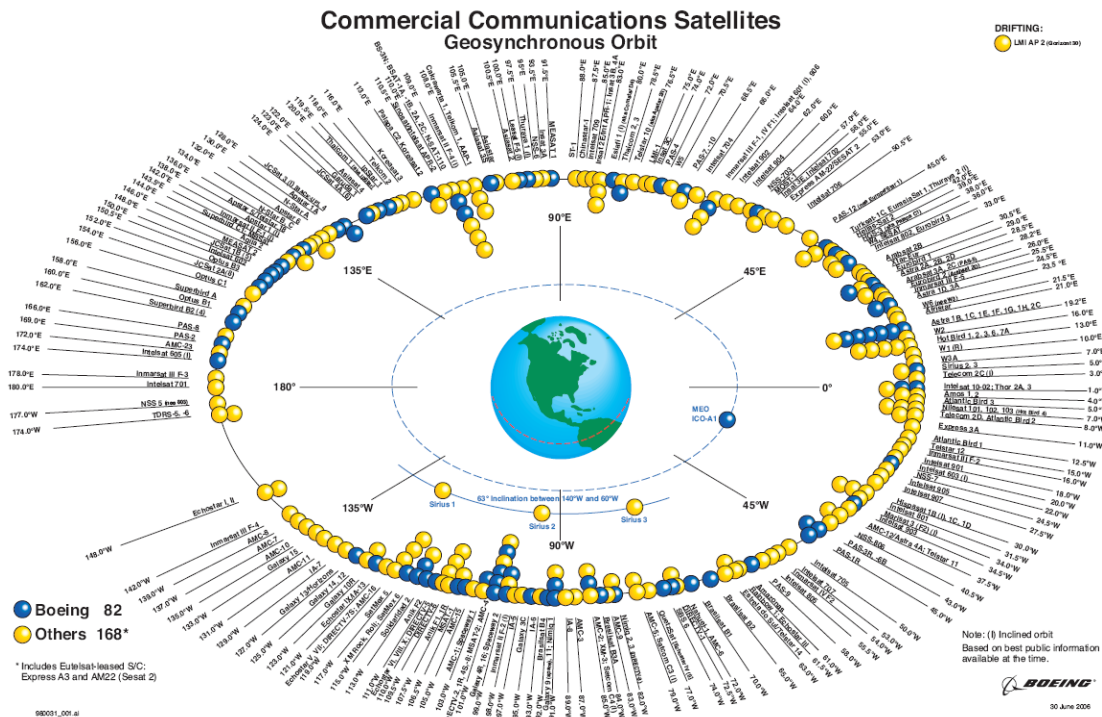

Figure 7: Orbital Position of Geosynchronous Satellites
1. Orbital Position – Set the satellite orbital position, this is entered as a longitudinal position in degrees with a west (W) or east (E) suffix. Check with your service provider for information on your satellite position(s). See figure 7 below for an example of satellite orbital positions.